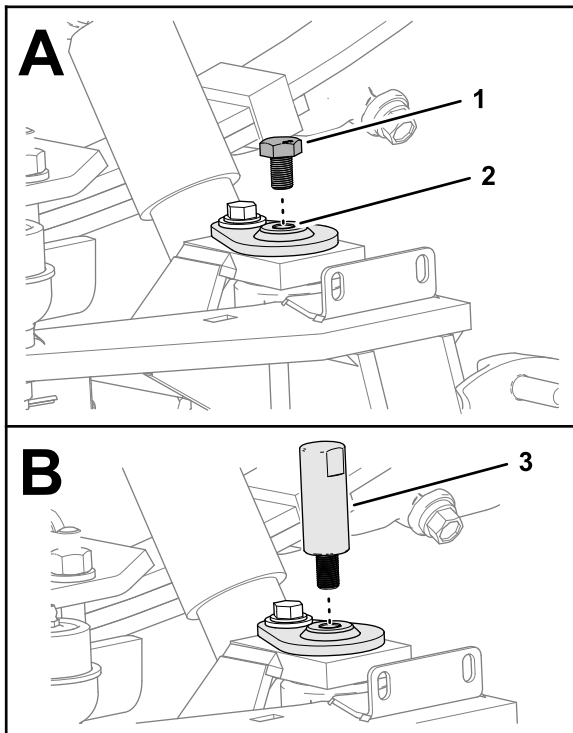

Figure 10
1. Remove the capscrew from the end of the kingpin (Figure 10).
2. Thread the alignment tool into the top of the king pin (Figure 10).